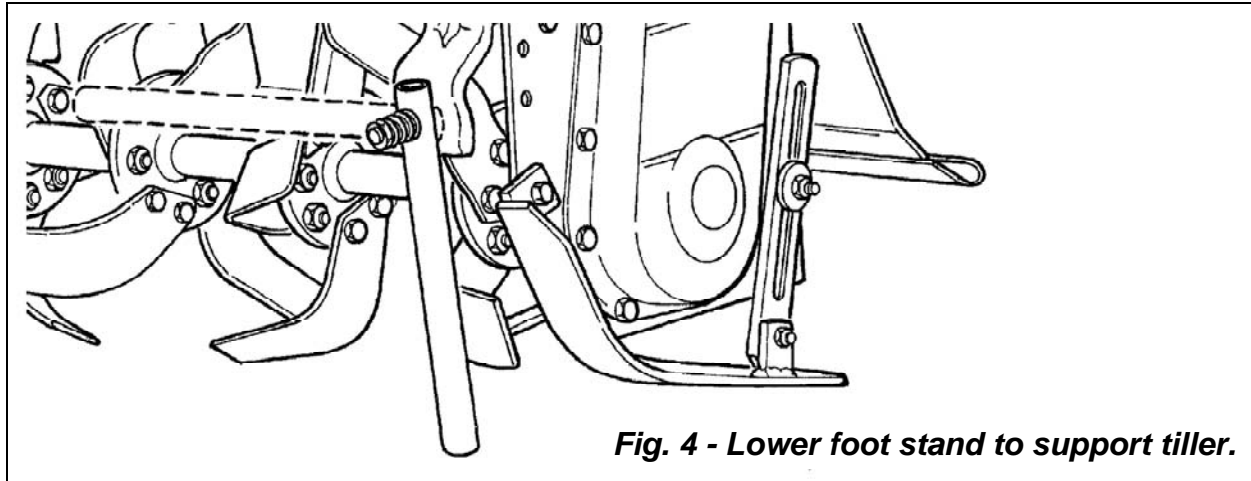

Fig. 4 - Lower foot stand to support tiller.
4. Be sure that the stand is held firmly in place, it should be able to swing down with the spring holding it in position to support the tiller without tipping over (see fig. 4).